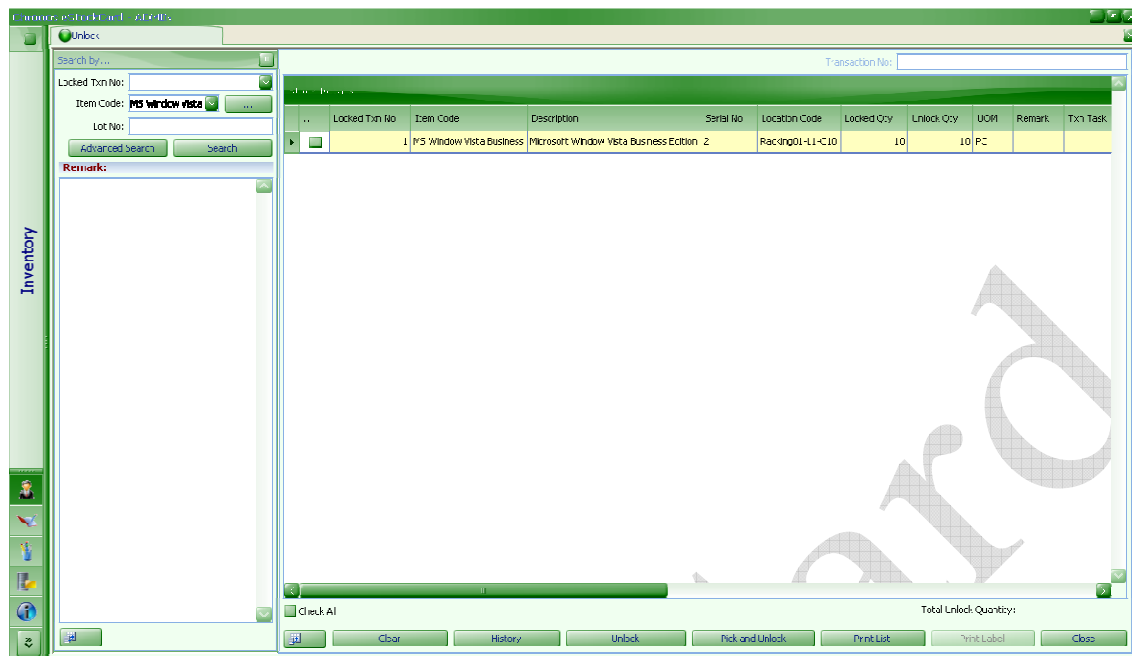
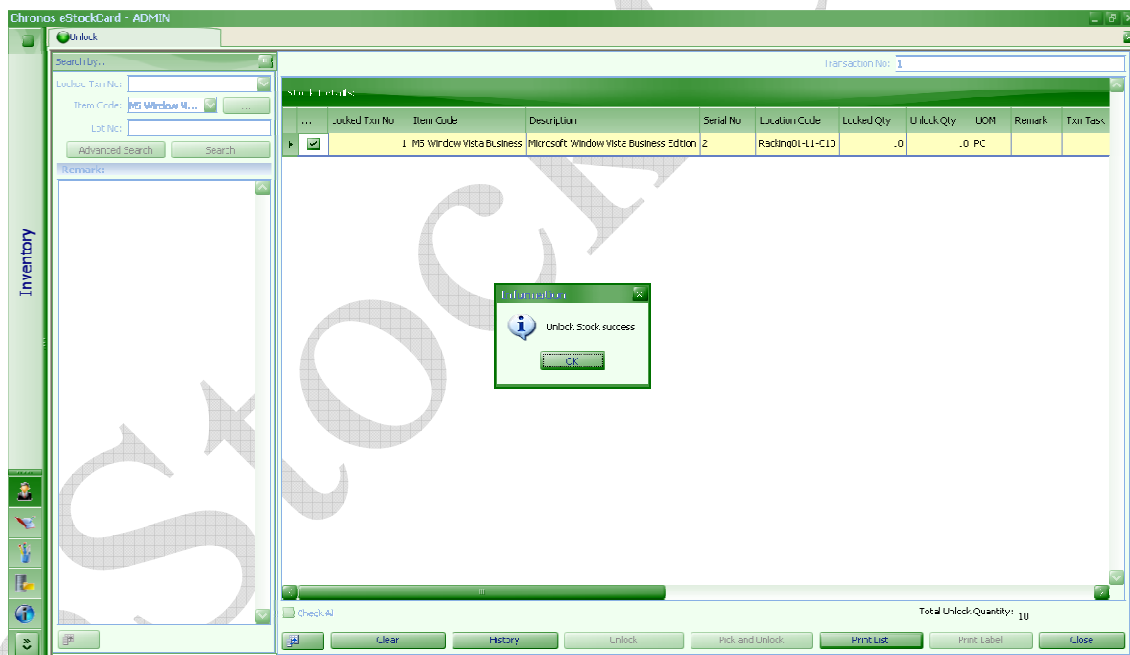

Fig. 52
Fig. 53
Step 3 Since only 1 record and tick it. Clicks “Unlock” (Fig. 52 & Fig. 53)